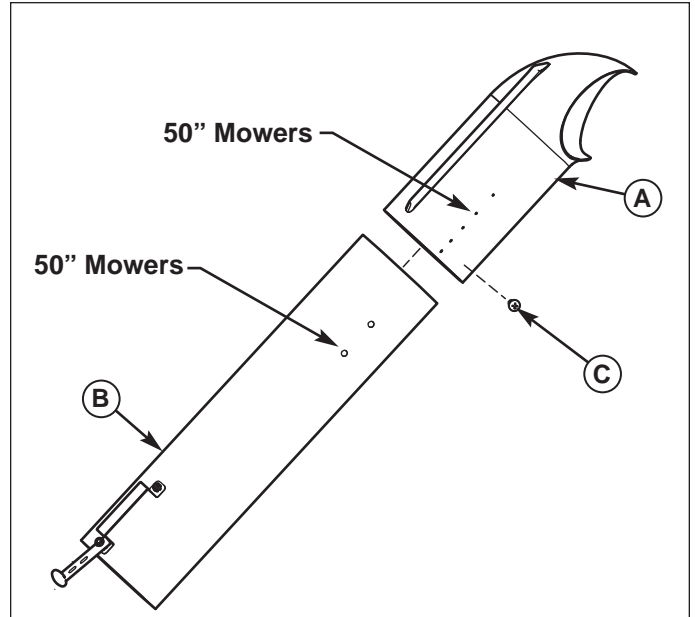

Figure 8. Middle and Upper Tube Assembly
1. Slide the upper tube (A, Figure 8) over middle tube (B) and secure together using screw (C).
See Figure 8 for hole locations.